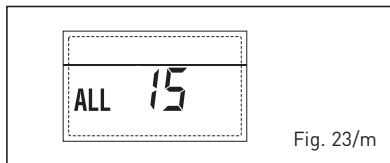

Fig. 23/m
**- EXTERNAL PROBE ERROR "FLASHING" (fig. 23/p)**